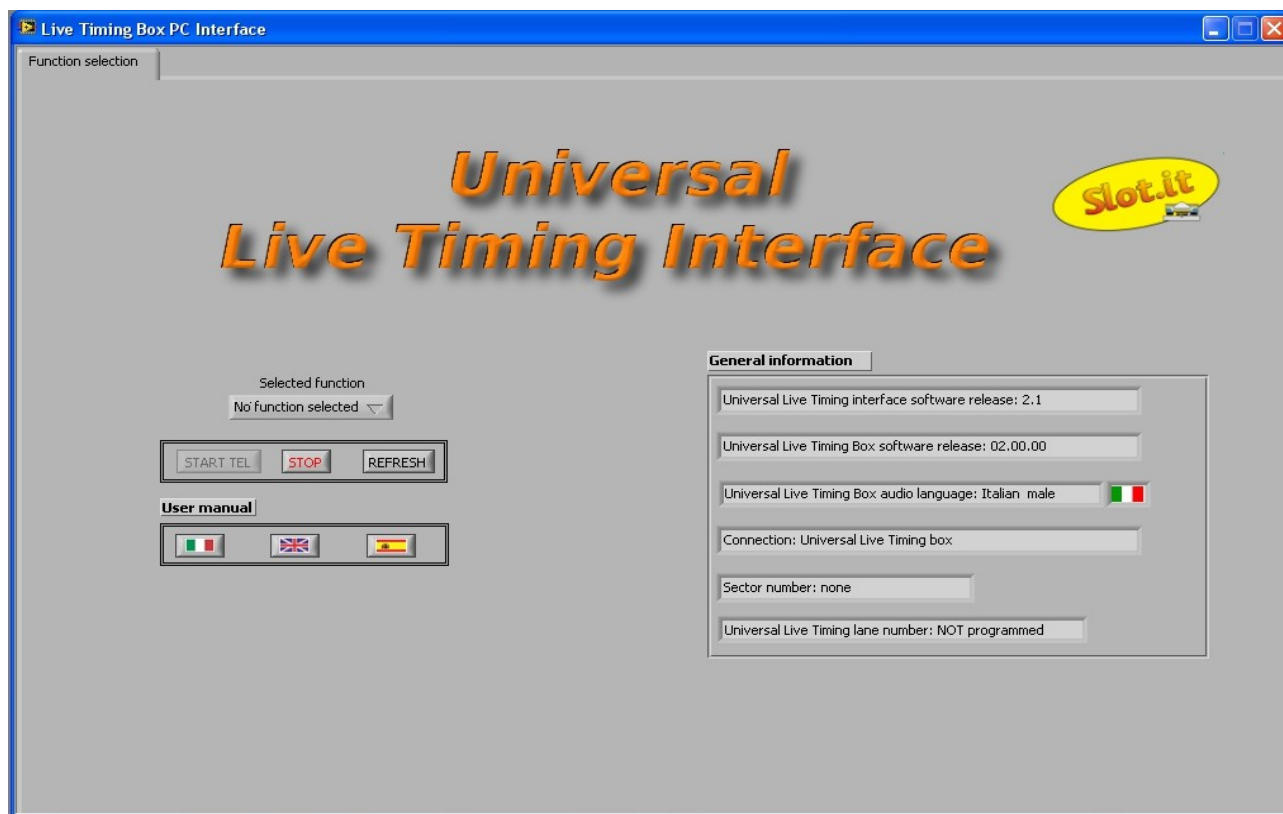

Figure 39: starting windows *Live Timing Box PC Interface* with one connected *Universal Live Timing Box*.
In case of connected *Universal Live Timing Box* (figure 39), some information appears on the right side of the page: this is the first data exchange between the *Live Timing Box PC Interface* application and the *Universal Live Timing Box*. These are:
On the left side of the same page (figure 39) is a drop-down menu, "*Selected function*", in which all the functions that can be carried out are listed. Under the drop-down menu there are three buttons to open the *Live Timing Box PC Interface* manual (see paragraph 2.2.1.7).
- *STOP POSTPROCESSING*: returns the *Live Timing Box PC Interface* application to the starting page, "*Function selection*" (figure 39).